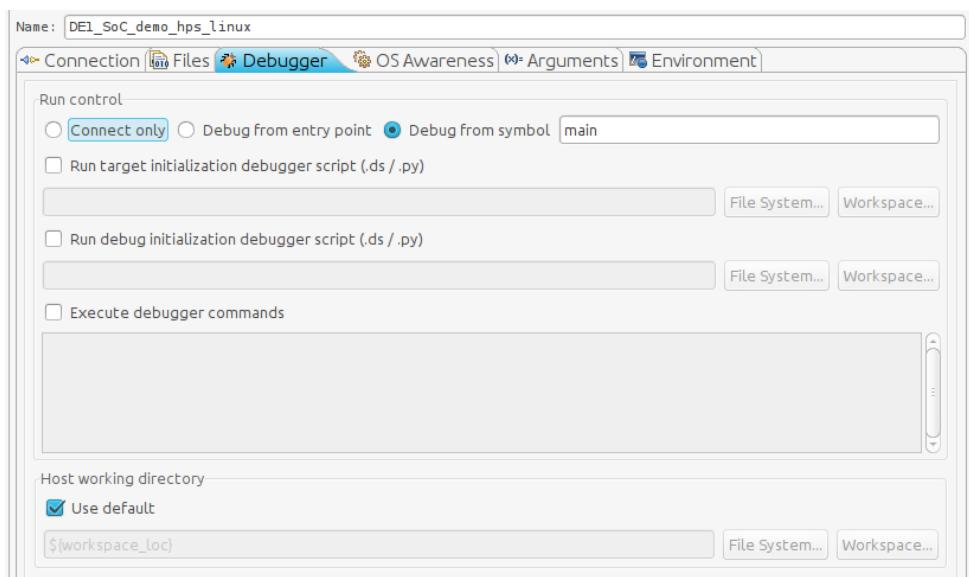

Figure 13-21. Debug Configuration "Debugger" Tab
78. Under the “Debugger” tab, make sure that “Debug from symbol” is selected and that “main” is the name of the symbol, as shown in Figure 13-21.